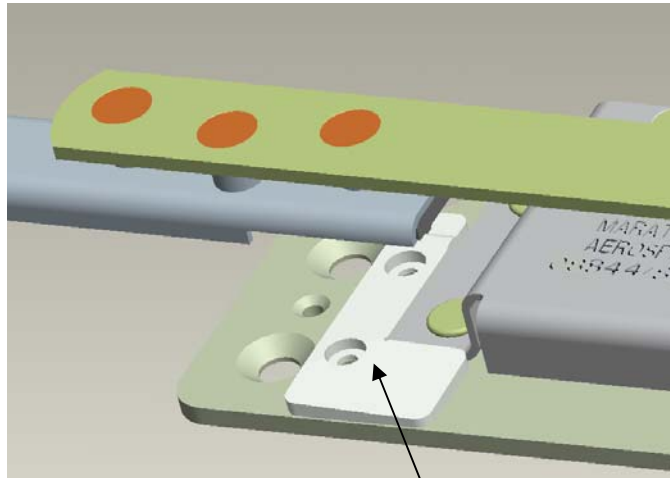
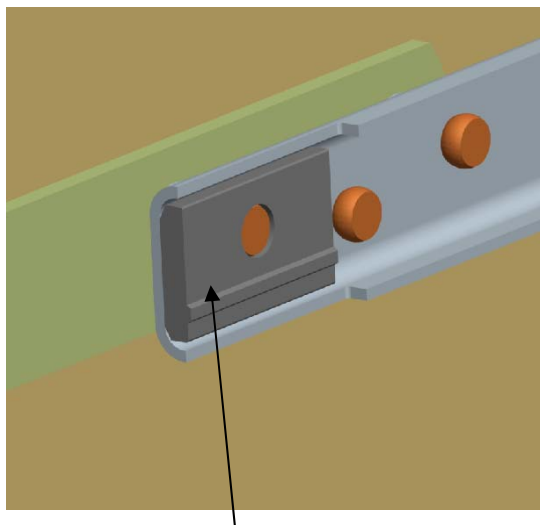

Figure 2: Orientation of the Base Plate Block Spring SSM112-11A-46
Figure 5: Location of Insert Under Handle, P/N SSM112-11A-48
2	<p>PAGE 3 SECTION 1.f.1.2.a. INSERT {SSM112-11A-48} WAS BLOCK SPRING {SSM112A11-45}</p> <p>PAGE 3 SECTION 1.f.1.2.b. SSM112-11A-46 WAS SSM112A11-46</p> <p>PAGE 5 FIGURE 2 SSM112-11A-46 WAS SSM112A11-46</p> <p>PAGE 6 SECTION 3.g. INSERT WAS BLOCK SPRING</p> <p>PAGE 6 FIGURE 5 INSERT WAS BLOCK SPRING; SSM112-11A-48 WAS SSM112A11-45</p> <p>PAGE 6 SECTIONS 3.h and i. INSERT WAS BLOCK SPRING</p> <p>THIS REVISION ONLY INCLUDES TYPOGRAPHICAL ERROR CORRECTIONS. THERE HAVE BEEN NO ENGINEERING OR FUNCTIONAL CHANGES.</p>
- b. Align the base plate Block Spring as shown in Figure 2 insuring that the part fits tightly to the corner of the mating part.
- g. Locate the handle Insert as shown in Figure 5.
- i. Press the Insert with adhesive into the handle as shown in Figure 5 and clamp securely until adhesive is set up and dry.
1. Insert will only fit as shown in Figure 5.